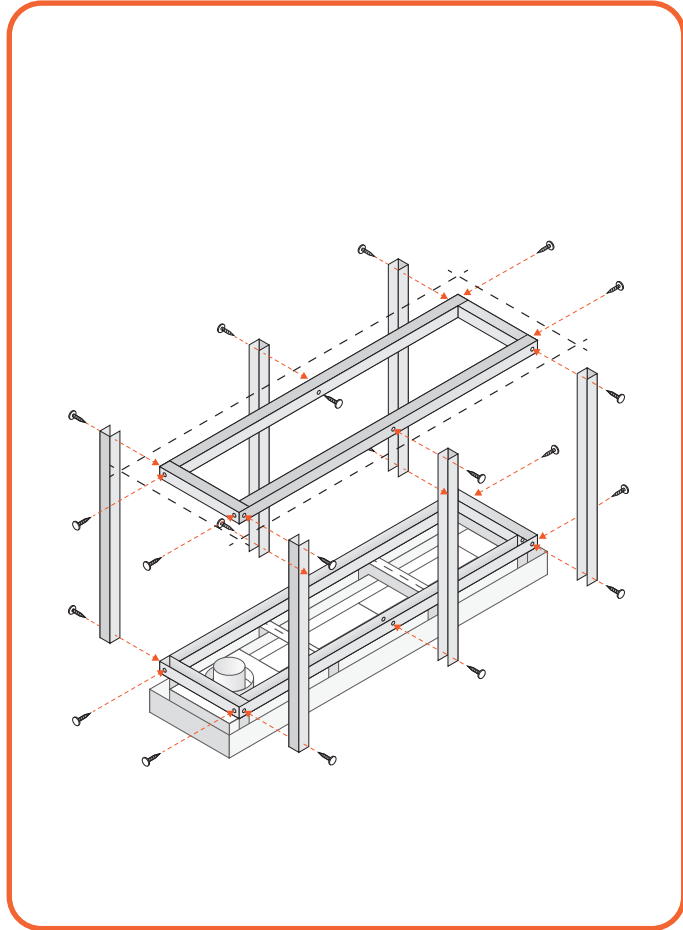
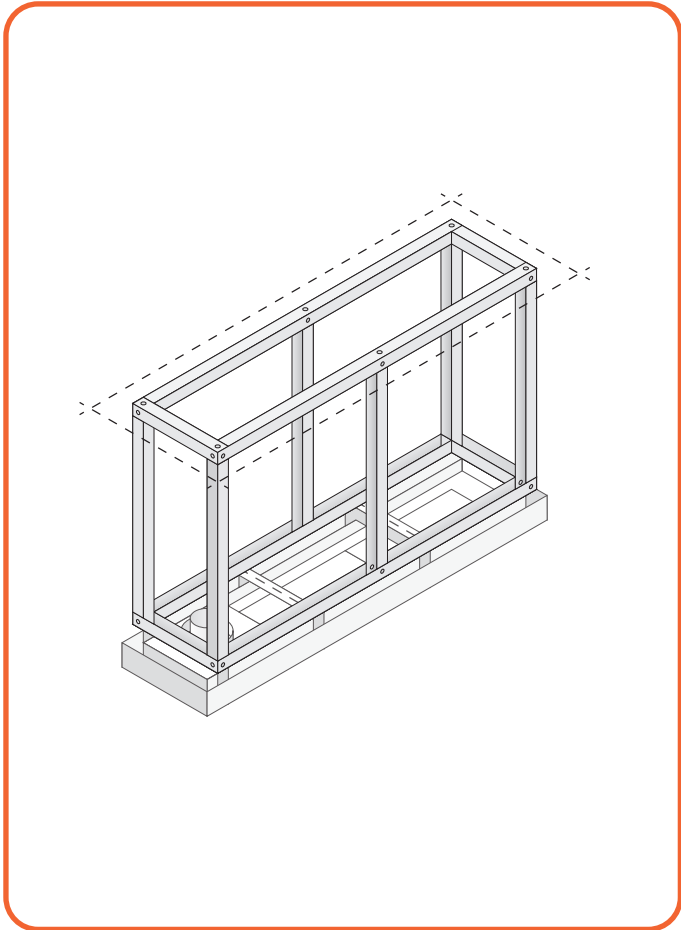

Figure 8.9 - Adding vertical insert between the frames
Figure 8.10 - Complete base of the frame
- Then place the upright profiles, which fall between the upper and lower frame. (See Figure 8.9 and Figure 8.10)